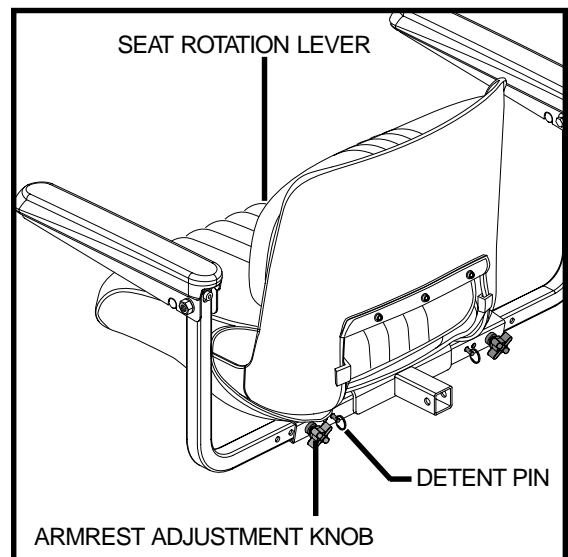

Figure 18. Seat Adjustments
1. Pull up on the seat rotation lever to rotate the seat. **See figure 18.**
1. Loosen the armrest adjustment knobs. **See figure 18.**